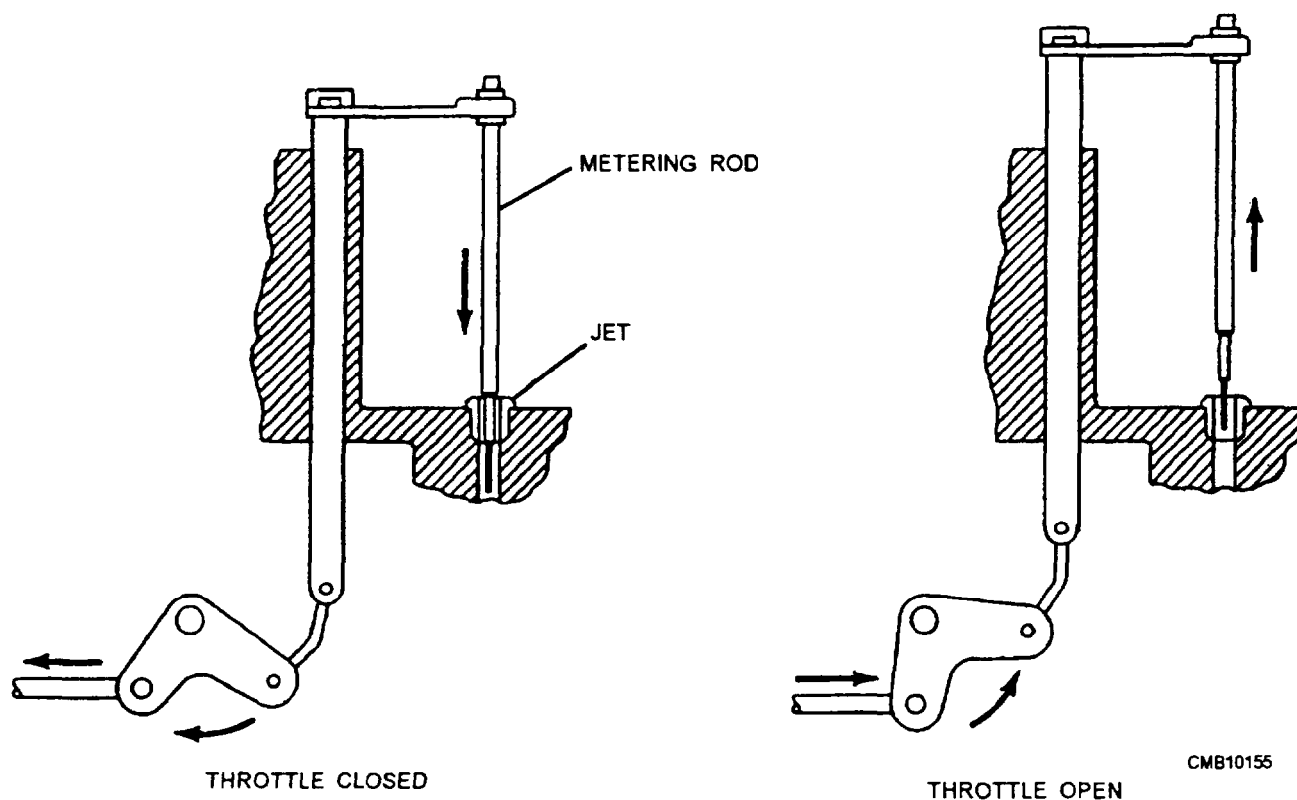

Figure 4-26.—Mechanically operated metering rod.
- The MECHANICAL LINKAGE metering rod (fig. 4-26) is linked to the throttle lever. Whenever the throttle is opened wide, the linkage lifts the metering rod out of the jet. When the throttle is closed, the linkage lowers the metering rod into the jet.